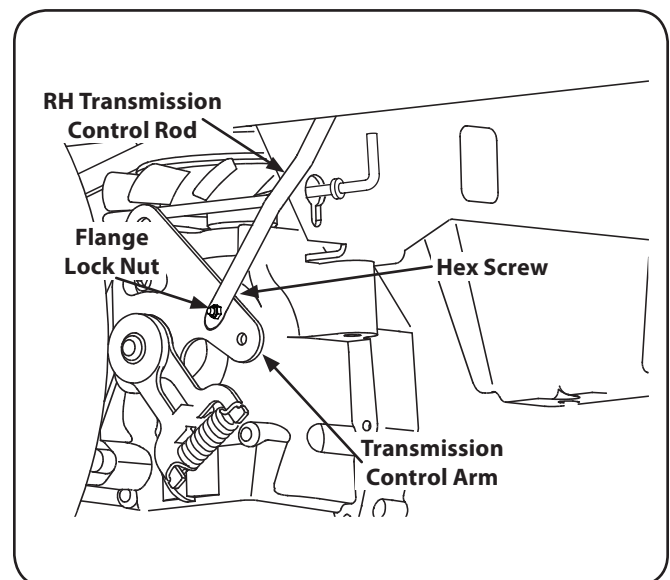

Figure 7-10
- If only one wheel is rotating, locate the transmission control rod beneath the frame at the front of the rear tire. If both wheels rotate, locate both control rods. See Fig. 7-10.